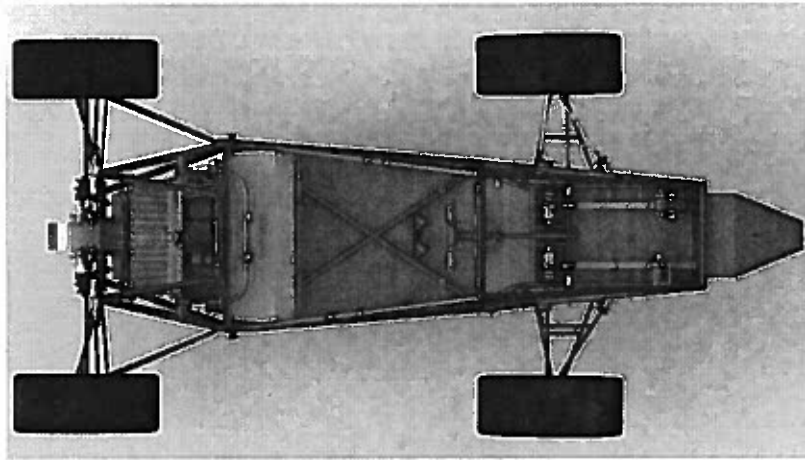

Figure 2: Full Vehicle, Top View
- *Figure 2 – Drawings or photographs showing the vehicle from the front, top, and side*
Please note that the figure numbers in our document do not correspond to the specified numbering above (Figure 2 comprises 3 figures: top, front, side view of the vehicle).